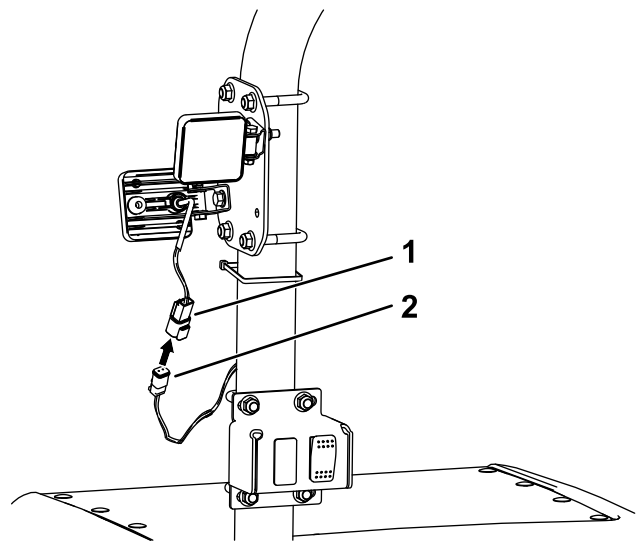

Figure 5
2. Connect the 4 square connectors to the work lights and connect the large light connector to the switch (Figure 5).